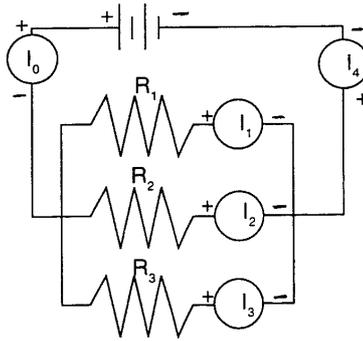

Figure 14.18: Current Measurements in Parallel Circuit
2. Connect the parallel circuit shown in Figure 14.18. Review the instructions for connecting the Multimeter as an ammeter. Connect it first between the positive terminal of the power supply and the parallel circuit junction to measure I_0 . Then interrupt the various branches of the parallel circuit and measure the individual branch currents. Record your measurements in Table 14.9.